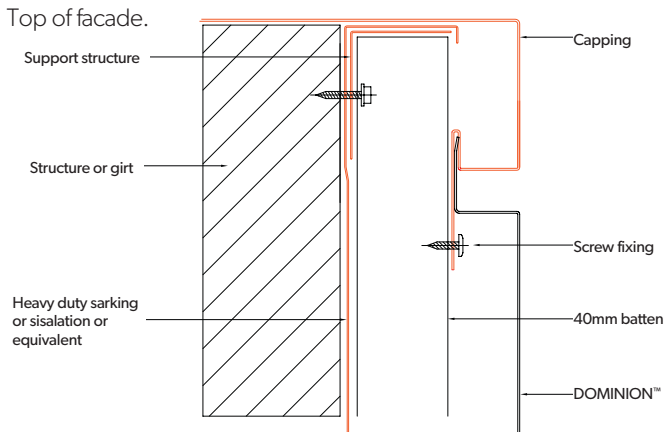

Figure 12.2.6:
7. At the bottom of the façade a flashing is required to direct any water from the membrane external of the façade. This will be done in a way as to allow any water to pass between the flashing and the foot mould. Figure 12.2.6.